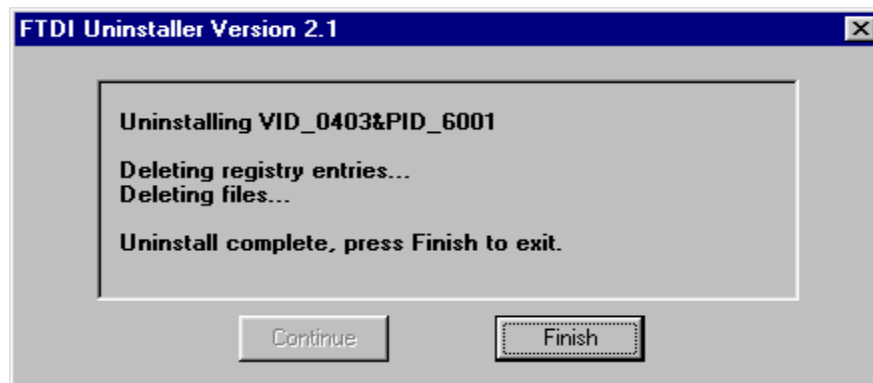

Figure 45
7. Click **Finish** on the **FTDI Uninstaller** confirmation panel (Figure 45).